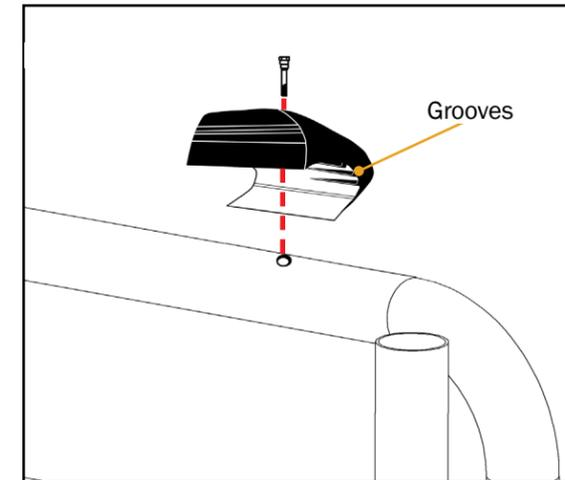

Figure 1A
- Set the A-Frame so the base points up (Figure 1A). This will give you downward leverage to properly assemble the Stability Feet. Steady both sides of the A-frame so the legs do not swing open.
- To attach the Rear Stability Feet (IA-1104), first determine which is the left and right foot. Do this by referring to the grooves inside each of the feet. The grooves should face outward, toward the curved corner of the A-Frame (Figure 1A). Insert the screw (IA-1104-S) for each foot from the base and tighten with Screwdriver (F5-1033).